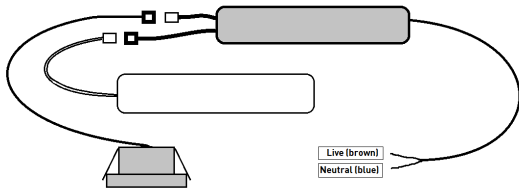

Fig. 2
- Connect the luminaire to the mains supply via a suitable junction box ensuring that correct polarity is observed: Live (brown) and Neutral (blue) (see Fig. 2):